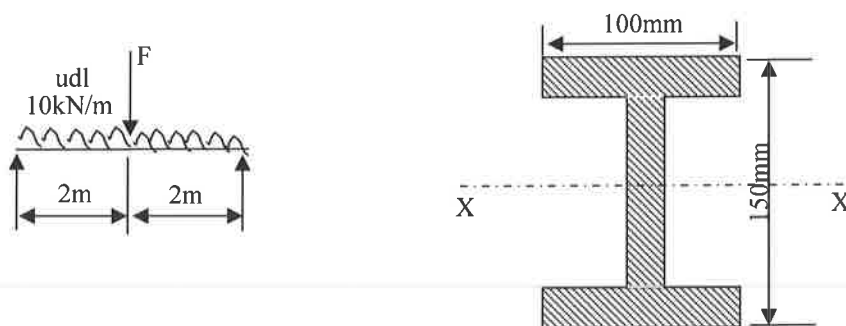

Figure Q.5
5. Calculate the maximum force F which can be applied at mid-span to the simply supported beam shown in Figure Q.5, if the maximum bending stress at this point is not to exceed 200 MN/m^2 . The second moment of area about the XX axis is $16 \times 10^6 \text{ mm}^4$.